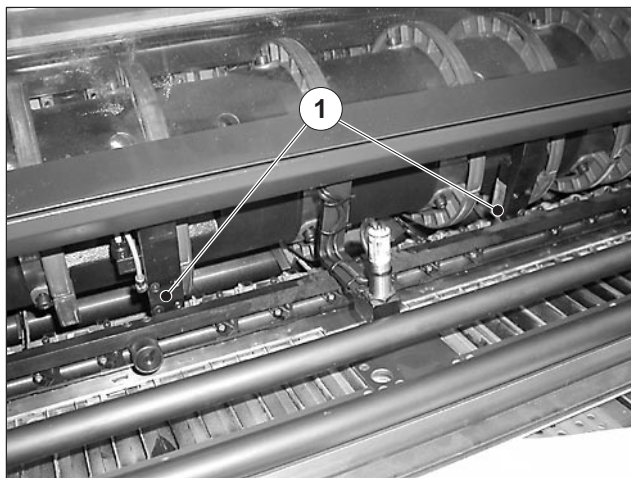
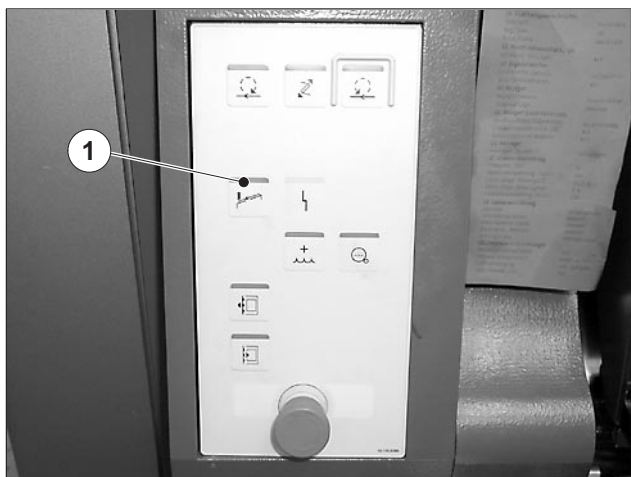

Fig. 76 Sheet stop fingers
Fig. 77
The sheet stop fingers (Fig. 76/1) are used for retaining double sheets, early sheets and late sheets on the feed table. To perform certain adjustment work or to remove double sheets you can raise the sheet stop fingers.
1. Press the *Release sheet stop finger* (Fig. 77/1) on the control panel of the first printing unit. The sheet stop fingers (Fig. 76/1) are raised.